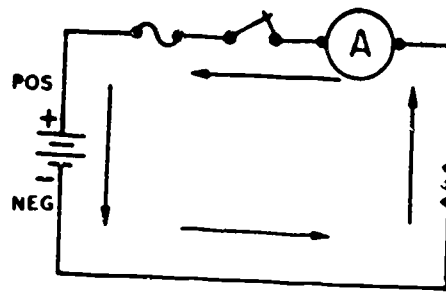

Figure 8. Direction of Current Flow.
4. Current flow is from negative side of the power source to the positive side. See figure 8.